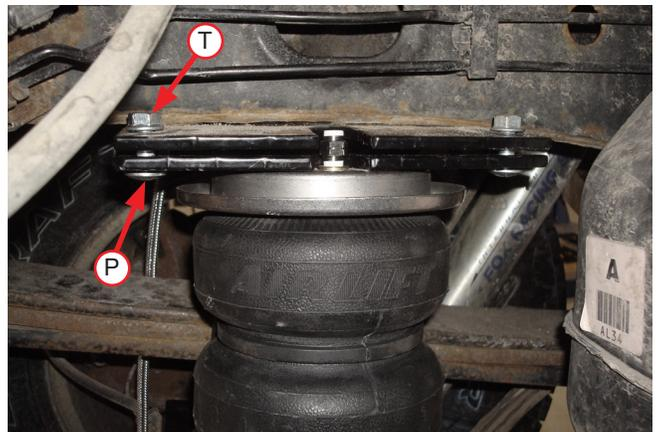

Fig. 19
2. While lifting up on the assemblies, insert two 3/8" carriage bolts (P) up through the air spring bracket and frame bracket (Fig. 19).